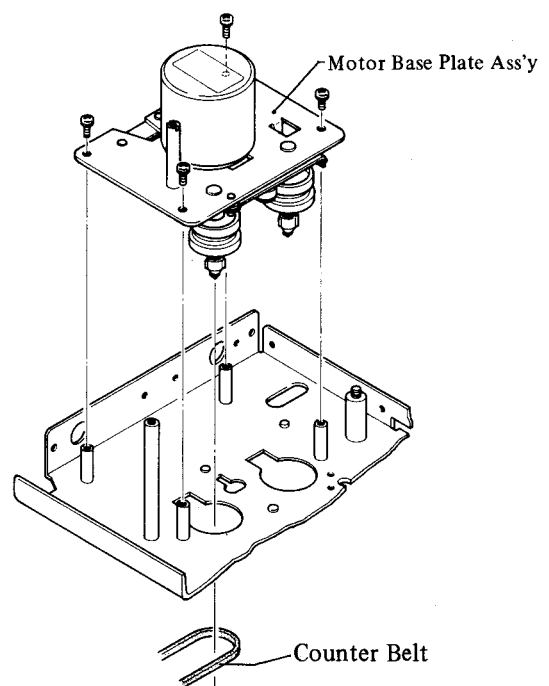

Fig. 4-6 Reel Motor Removal
7. Carefully lift out the Motor Base Plate Ass'y. (Fig. 4-6)